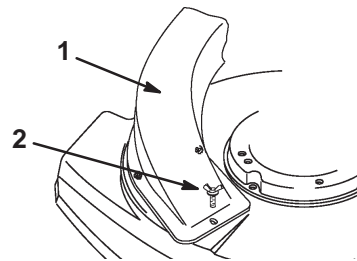

Figure 37
9. Secure the chute assembly with the wing screw (Fig. 37).